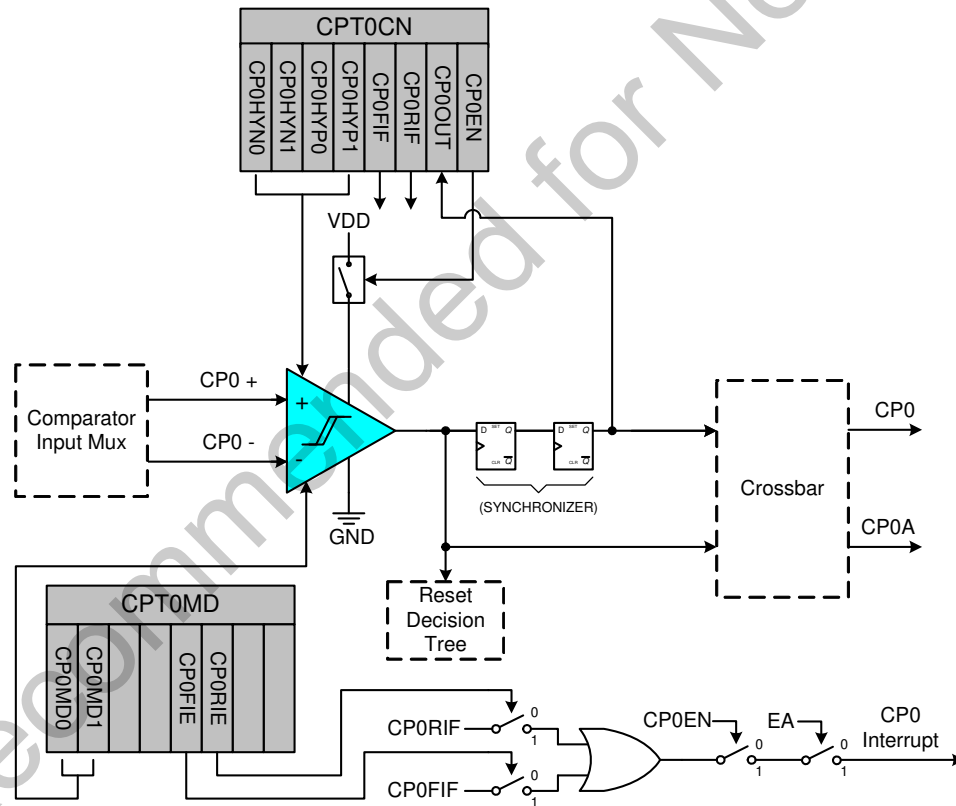

Figure 8.1. Comparator0 Functional Block Diagram
C8051F380/1/2/3/4/5/6/7/C devices include two on-chip programmable voltage comparators: Comparator0 is shown in Figure 8.1, Comparator1 is shown in Figure 8.2. The two comparators operate identically with the following exceptions: (1) Their input selections differ as described in Section “8.1. Comparator Multiplexers” on page 71; (2) Comparator0 can be used as a reset source.